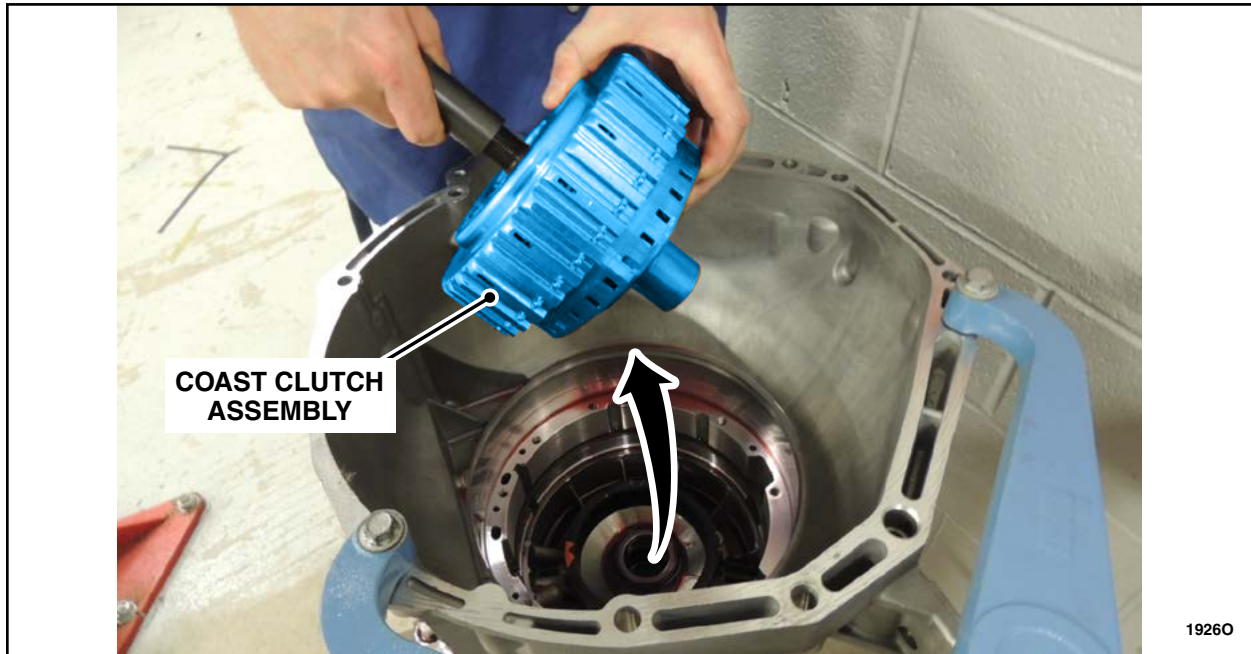

FIGURE 15
14. Remove the coast clutch assembly from the transmission then remove the Clutch Loading Fixture from the coast clutch assembly. See Figure 15.